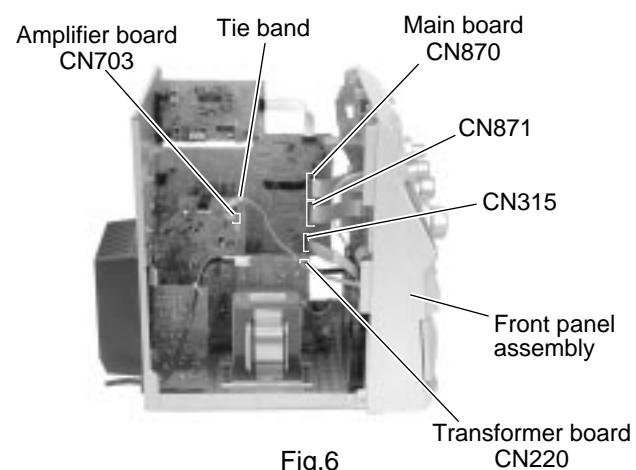

Fig.6
■Removing the front panel assembly (See Fig.6 to 10)